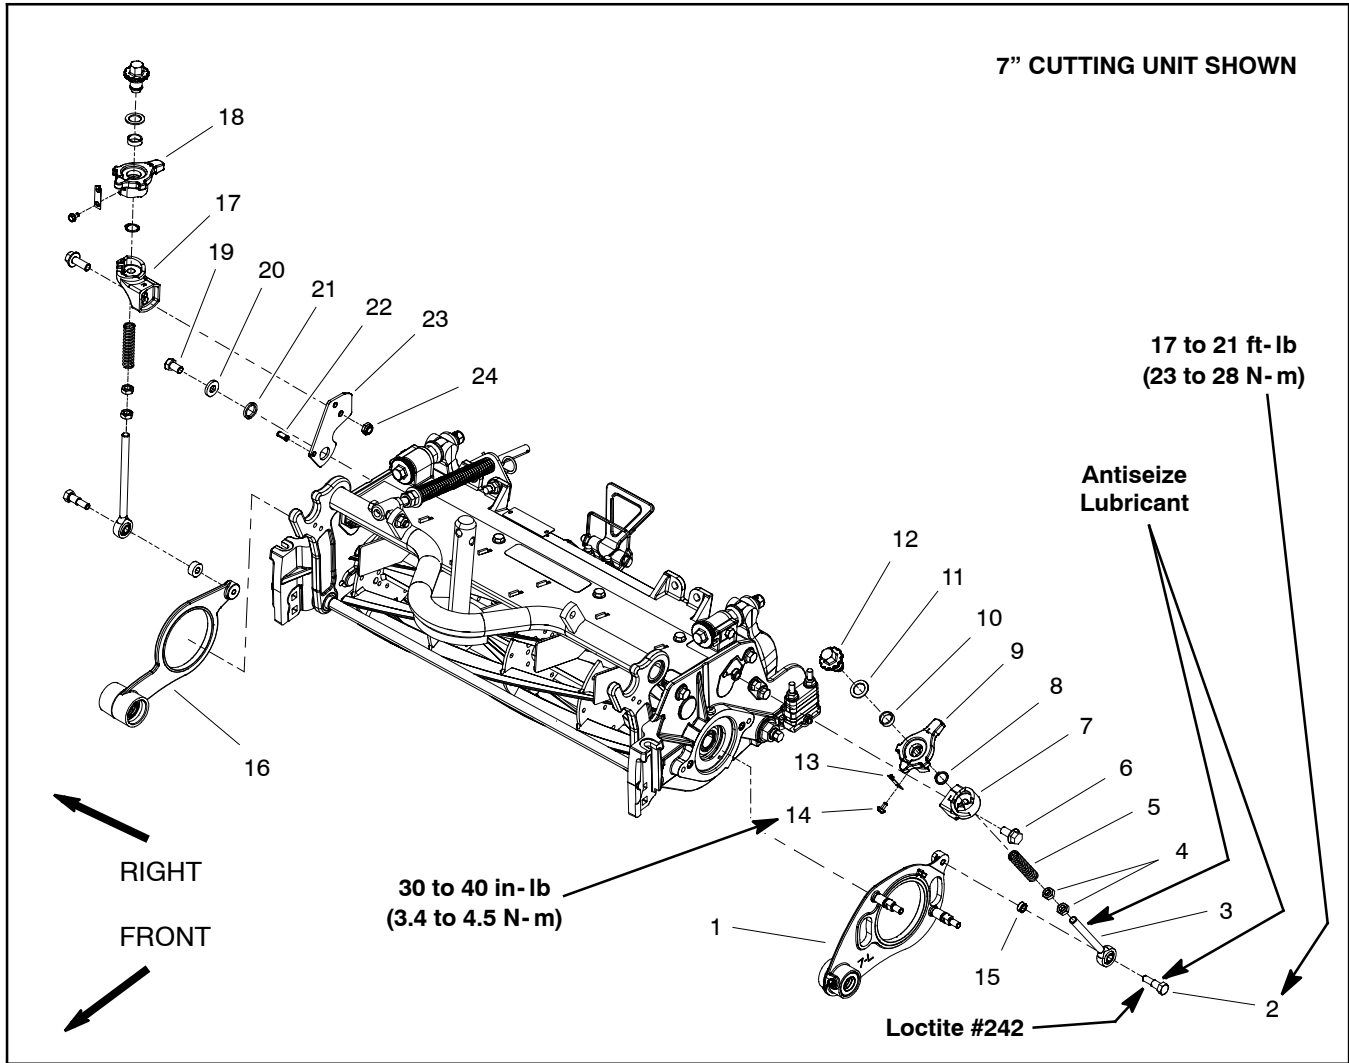

Figure 18
NOTE: The groomer reel drive is located on the opposite side of the cutting unit from the cutting reel hydraulic motor. Figure 18 shows components used when the groomer reel drive is on the left side of the cutting unit.
Disassembly (Fig. 18)
3. Disassemble height adjuster as needed using Figure 18 as a guide.
Assembly (Fig. 18)
1. Assemble height adjuster using Figure 18 as a guide noting the following items: